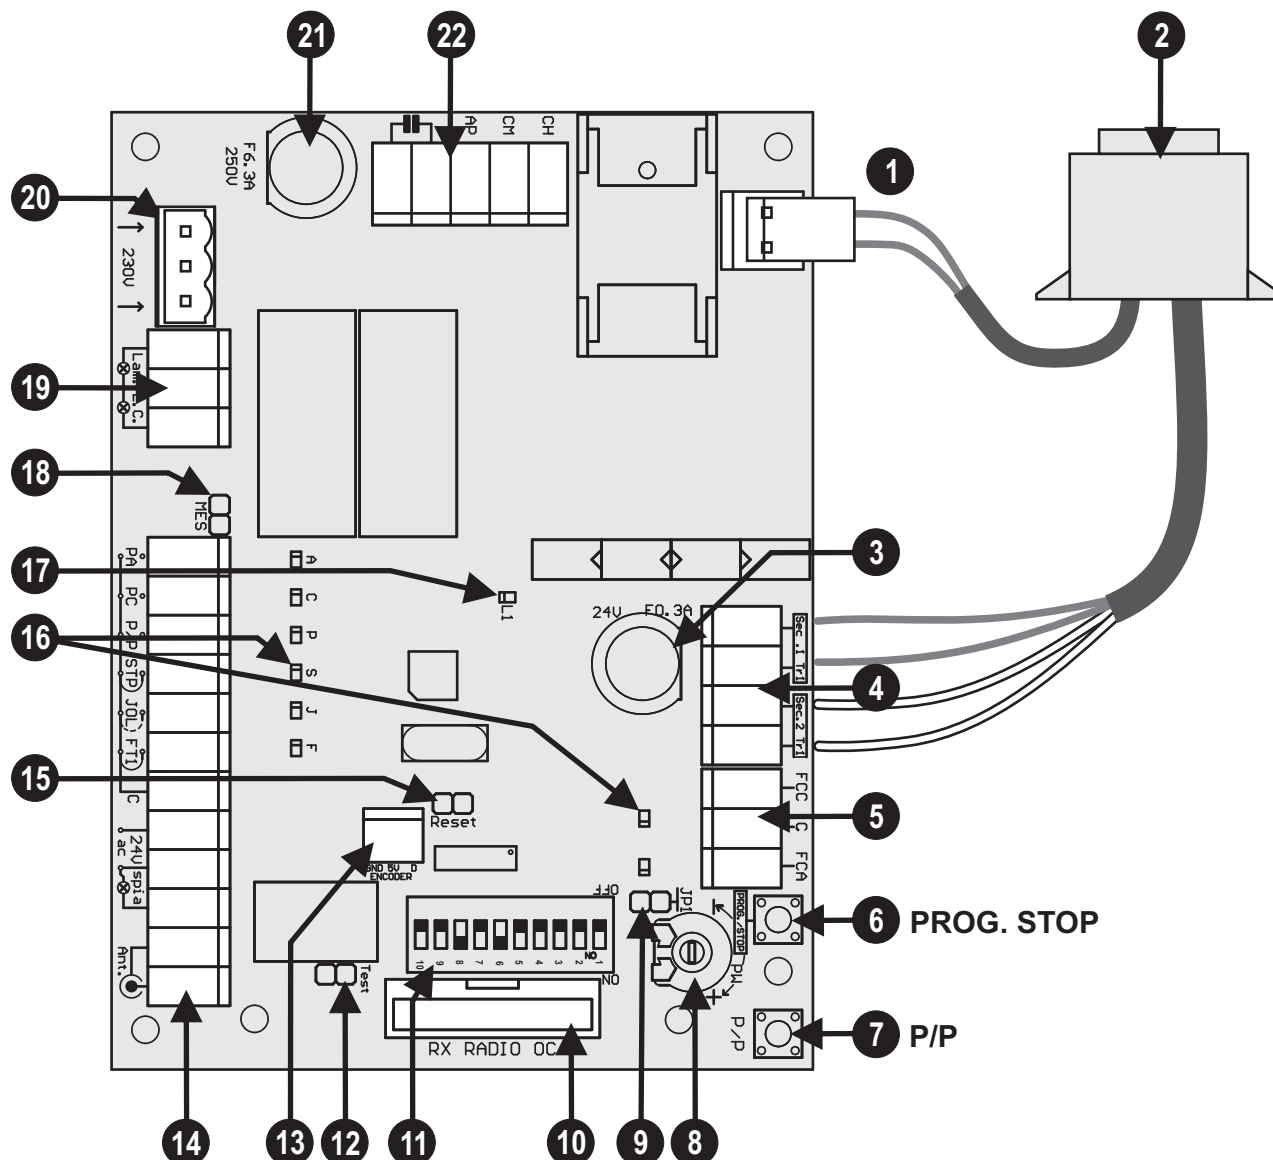

Fig.1. SWIFT6 driver motherboard view, with indication of most important elements
Motherboard of the driver (fig. 1) has power supply unit and an implementation circuit made on specialist transmitters, as well as connectors for connecting supply voltage, motor and protecting, steering and signal elements. It also has microprocessor control unit. Presence of the supply voltage is signalled with the LED diode lighting.
Clamps are used to connect built in limit switch. Magnets which cooperate with the switch have different polarization. Before the programming make manual move with gate and make sure that the switch correctly interprets outermost positions of the gate (gate closed - FCC diode turned off, gate opened FCA diode turned off; 16, fig. 1). If the switch operates in opposite way turn the magnets 180 degrees after earlier removing the cases - catch in the top part of the magnet. Magnet with the tag (white stripe) directed toward the switch activates FCC switch (gate closed) and magnet with the tag directed toward the handle activates FCA switch (gate open).
4.3.5. Connector for engine encoder ENCODER (13, fig.1)
4.3.13. Connector for TRX radio card and clamps for connecting radio aerial (14, fig.1)
After switching the power supply of the driver, there is an automatic change into OPERATION MODE. In operation mode, the current state of inputs is signaled by LED diodes (16, fig. 1)
The programming takes place with the help of the LED L1 diode and PROG/STOP and P/P buttons which are on the driver board (6.7 fig. 1), groups of DIP-SWITCH micro switches (11 fig. 1), JP1 jumper and PW potentiometer (9 and 8 fig. 1). The control panel learns the operation times and pause during the procedure of the programming. Programming procedure includes repeated operation with using the P/P button or remote control if such was assigned. Important remarks before the programming:
EN12445 safety norm demands that all automation systems pass crash tests measured with special devices. Conduct crash tests and change the sensitivity of the encoder with the use of the trimmer (8 fig. 1). If settings are insufficient it is possible to install the soft rubber profile on the edge of the gate in order to soften possible impacts into the obstacle. If norm requirements are still not met after the change of sensitivity and installing the rubber profile, install additional safety devices, for example safety edges.
Soft start function determines the gradual movement from the start without shocks on the gate. The function can be omitted by installing the JP1 jumper (9, fig. 1).